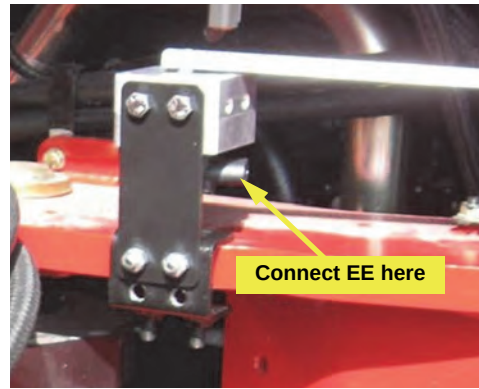

Figure 2d: WAS assembly wire connector
- d. Install WAS cable **EE** between **EC**'s connector labeled 'WAS' and the wire connector (**WB**) of the WAS assembly installed at the articulation joint (Figure 2d). Route the cable through the cab access hole and the fuse box side opening.